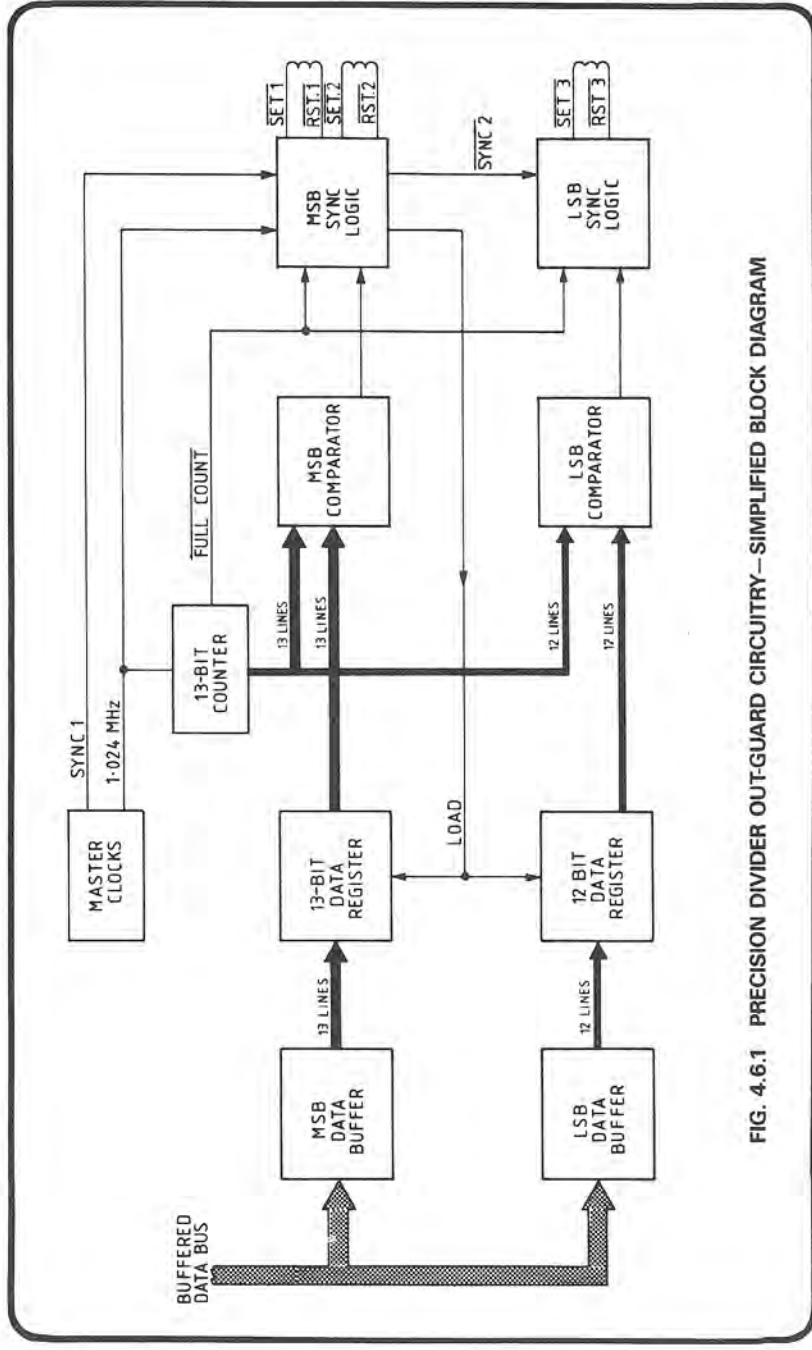

FIG. 4.6.1 PRECISION DIVIDER OUT-GUARD CIRCUITRY—SIMPLIFIED BLOCK DIAGRAM
4.6.1.1 General (Figs. 4.6.1 and 4.6.2)
4.6.1.2 Comparator Operation (Fig. 4.6.1)